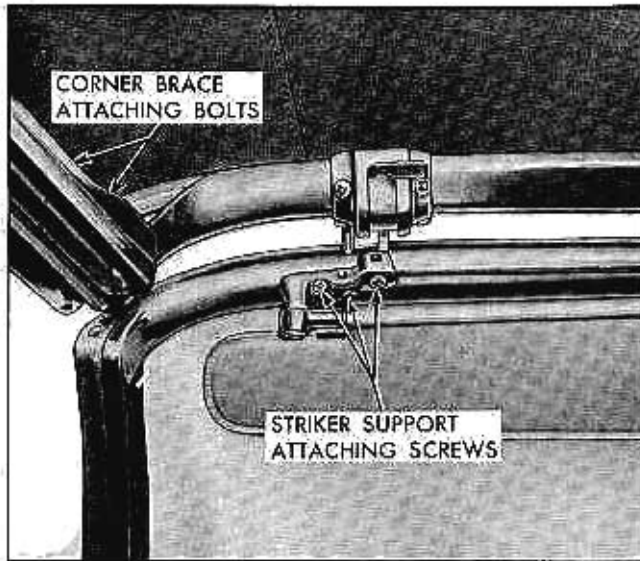

Fig. 7-12 Front Roof Rail Adjustment
3. After top is raised, guide studs on front roof rail into striker holes; then engage each folding top locking handle with striker on windshield header (Fig. 7-12).